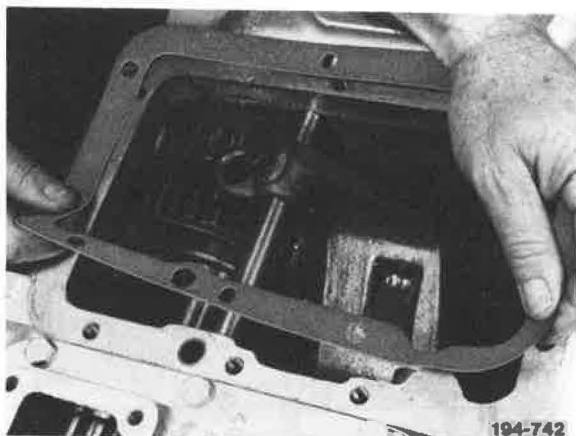

Figure 418. Installing Gasket
36. Install a new front compound top cover gasket. See Figure 418.